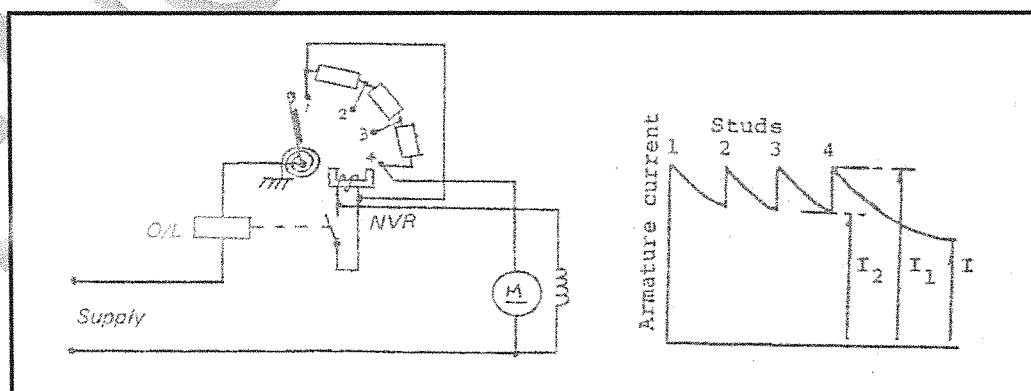

FIGURE 1: MOTOR STARTER
3.5 Study the circuit diagram and graph in FIGURE 1 below and give a short explanation of the following: